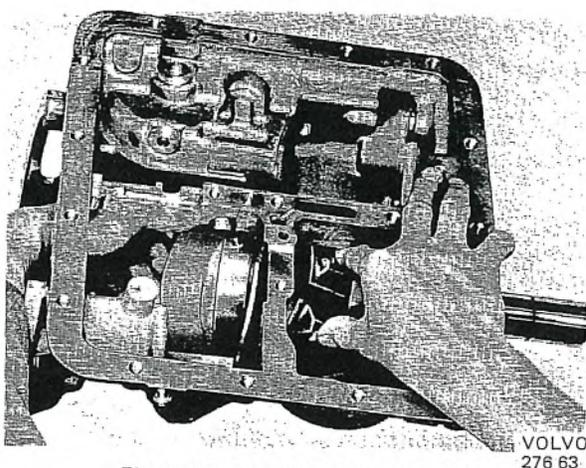

Fig. 4-94. Installing rear brake band
6. Place the rear brake band in position in the case, see Fig. 4-94. Then fit the rear servo assembly. Tighten only the rear (short) servo screw since the long one also locates the center support.